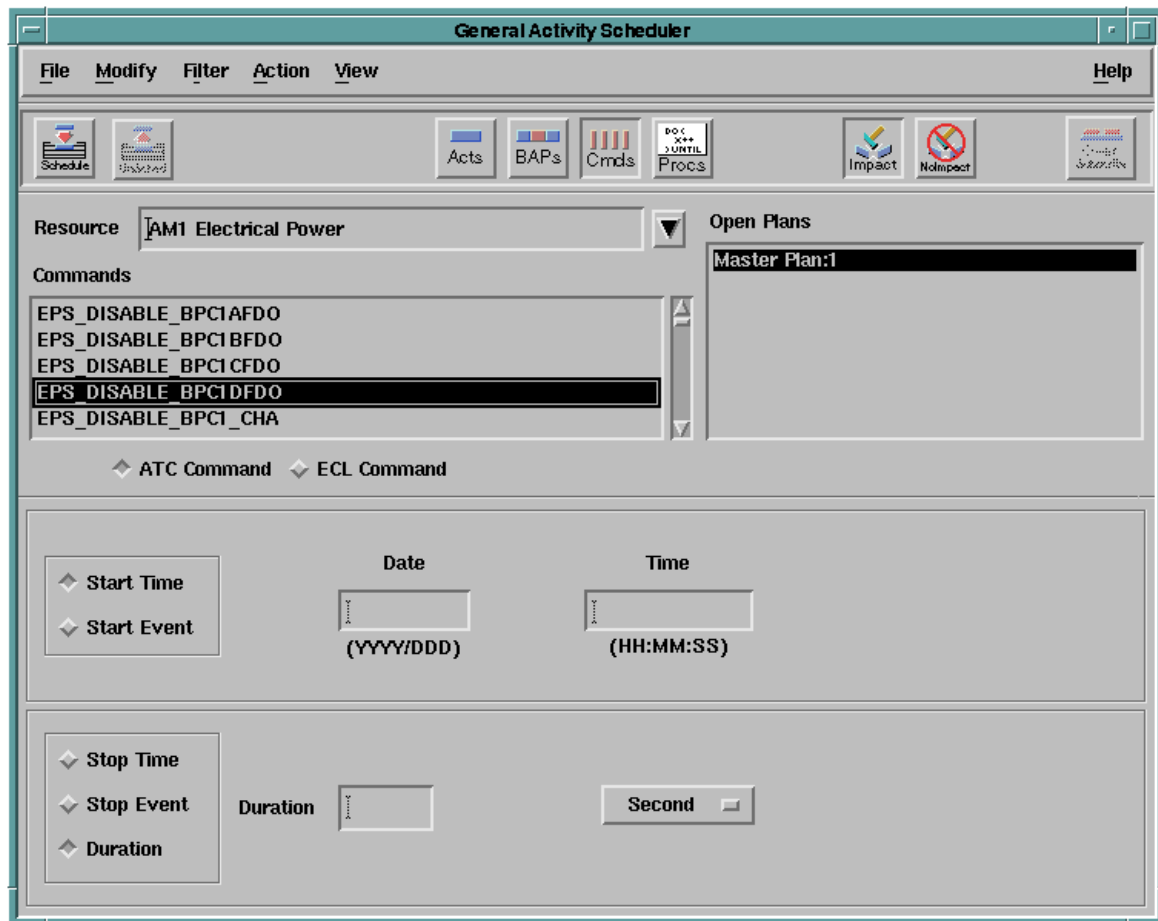

Figure 8.6.3.2-1. Electrical Power Subsystem Command Scheduled on the Master Plan
9. Select **Schedule** from the Action menu, or alternatively click **Schedule** on the tool bar. The General Scheduler schedules the command as specified. The resulting scheduled activity appears on the display of the Timeline tool, assuming the chosen resource on the selected plan over the selected time range is visible. Figure 8.6.3.2-1 displays an electrical power subsystem command being scheduled on the Master Plan. The command displayed below is scheduled to start on day 12 of 1999 with a duration of 5 minutes.